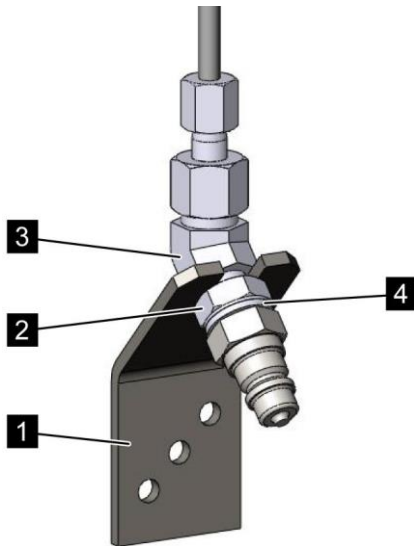

Fig. 115: Mounting the test connection
1. ➤ Fasten the fastening bracket (Fig. 115/1) on a wall or on the cylinder battery frame.
2. ➤ Hook in and align the angled threaded union (Fig. 115/3).
! If necessary turn the lock nut (Fig. 115/2) counterclockwise until the angled threaded union fits into the fastening bracket.
3. ➤ Hold the base element of the angled threaded union (Fig. 115/3) in position with a wrench and tighten the lock nut (Fig. 115/2) with a second wrench.
4. ➤ Ensure that the O-ring with support ring (Fig. 115/4) is clean and not tilted.